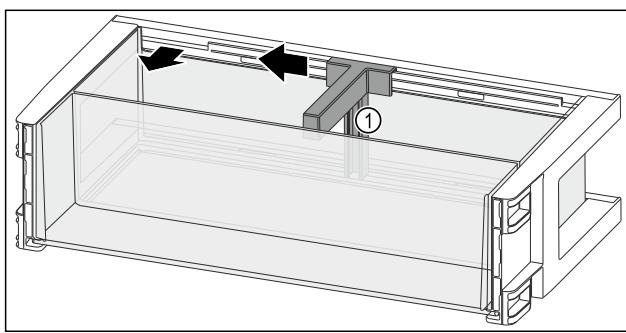

Fig. 131
- Slide the bottle holder Fig. 131 (1) to the side as far as the recess.
- Remove the bottle holder Fig. 131 (1).